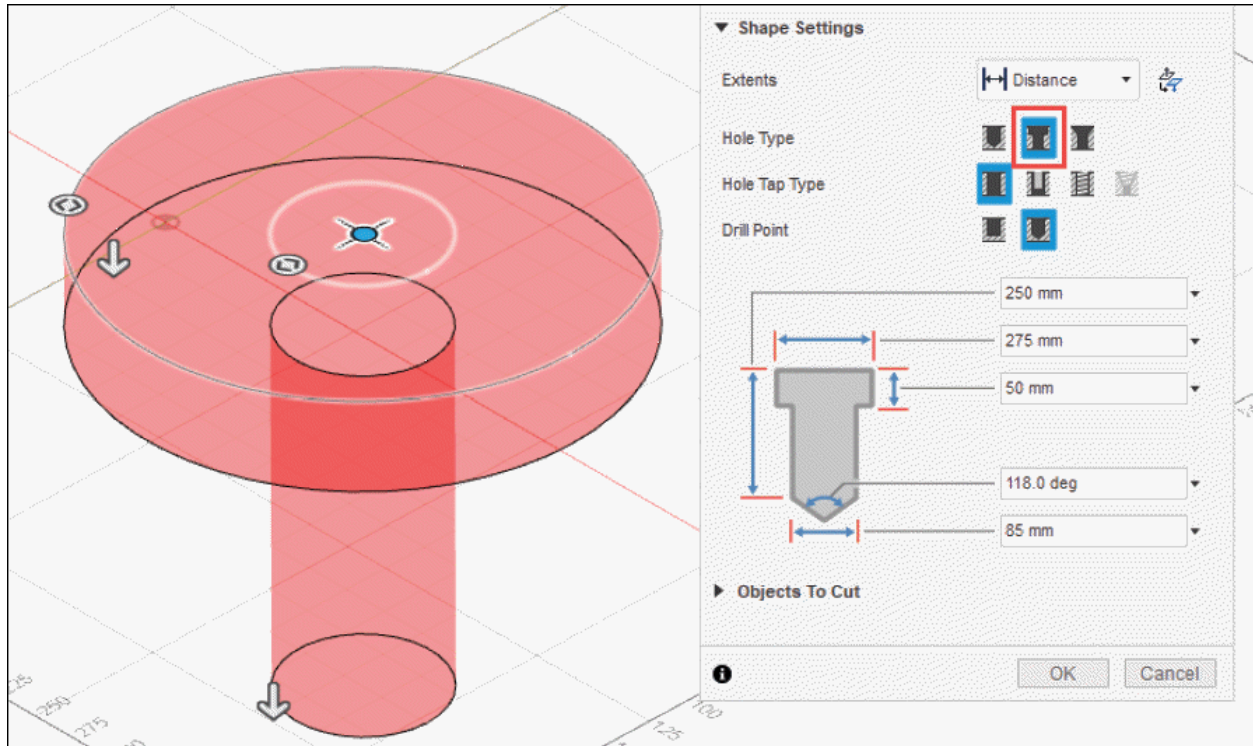

Figure-44. Counterbore hole
- Click on **Counterbore** button in **Hole Type** section to create a counterbore hole and specify the dimension in their respective edit boxes at the bottom in the dialog box; refer to Figure-44.